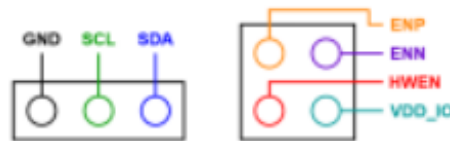

Figure 2. I2C Adapter Wire Connection
2. Connect five of Kinetic I2C adapter wires to the evaluation board connector P1 (VDD_IO, HWEN, SDA, SCL, GND) as shown in Figures 2 & 3.